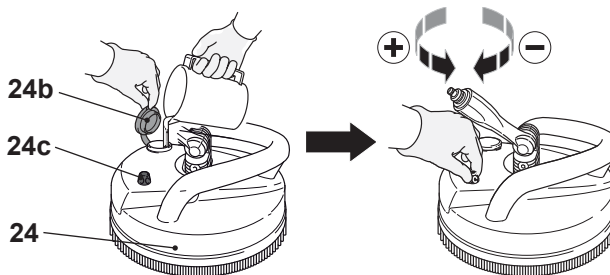

Fig. 13
9. Open the cap (24b) and fill in suitable detergent and close the cap afterwards (Fig. 13).